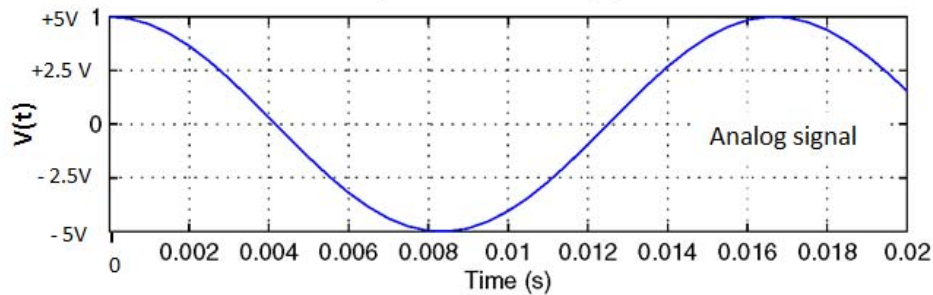

Figure 2: An analog signal that we want to digitize
Now consider an analog time-varying voltage signal shown in Figure 2, that can be described by the equation $V(t) = 5 \cos(2\pi ft)$ Volts, and where $f = 60$ Hz.
- Suppose that your sampling rate is $4 \times 60 = 240$ Hz. On Figure 2, indicate where the samples would be taken (i.e. draw a circle at the position of each sample).
- If your sampling frequency were increased to 480 Hz, what might the sampled values look like? Again indicate the samples in Figure 2, using different symbol.